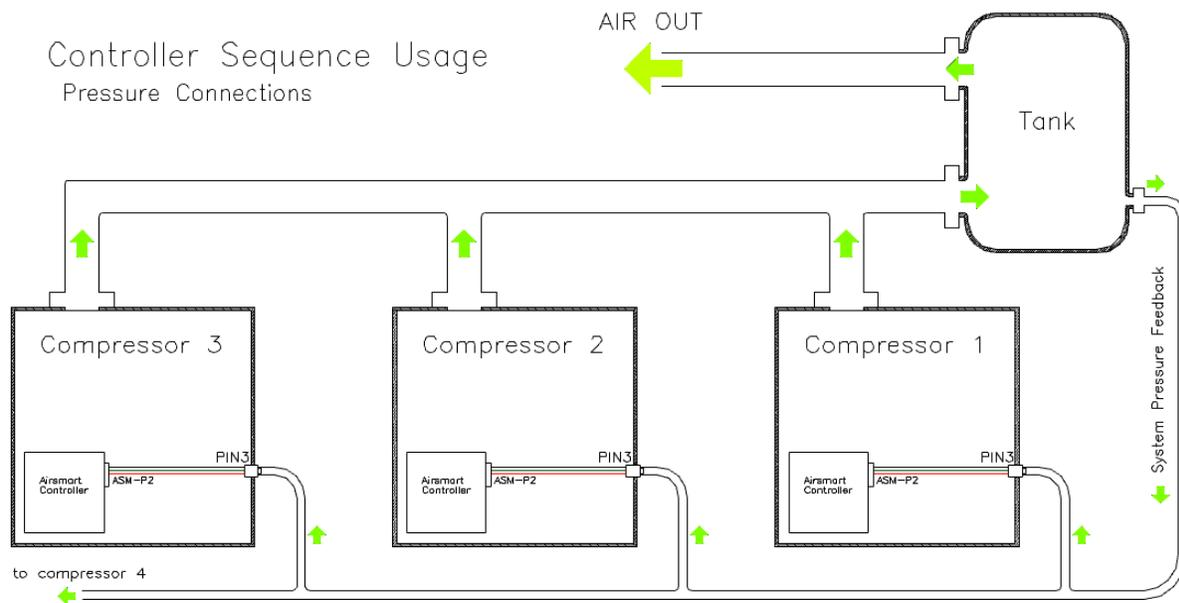

Figure 1-1 - Sequencing Pressure Connections
In order to be capable of acting as the Leader of the sequencing group, the compressor must have a system pressure transducer installed and be set to **Sequenced** mode. The system pressure transducer is a pressure sensor typically installed in the control box and plumbed to the system receiver. When running in sequence mode, the leader uses only this transducer to modulate all sequenced machines. The system pressure transducer should take a pressure reading from the receiver that all sequenced machines are connected to, as shown in **Figure 1-1 - Sequencing Pressure Connections**.
2. Connect bulkhead fitting to the 1/4" system pressure feedback tube from the plant receiver tank, as shown in **Figure 1-1 - Sequencing Pressure Connections**.